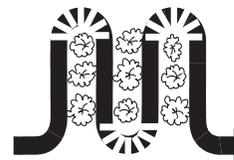

Fig. 4-9
- When cultivating (breaking up surface soil around plants to destroy weeds, see Fig. 4-9), a just the tines to dig only 1” to 2” deep. Using shallow tilling depths helps prevent injury to plants whose roots often grow close to the surface. If needed, lift up on the handlebars slightly to prevent the tines from digging too deeply. (Cultivating on a regular basis not only eliminates weeds, it also loosens and aerates the soil for better moisture absorption and faster plant growth.) Watering the garden area a few days prior to tilling will make tilling easier, as will letting the newly worked soil set for a day or two before making a final, deep tilling pass.
With planning, you can allow enough room between rows to cultivate (see Fig. 4-9). Leave room for the hood width, plus enough extra room for future plant growth.